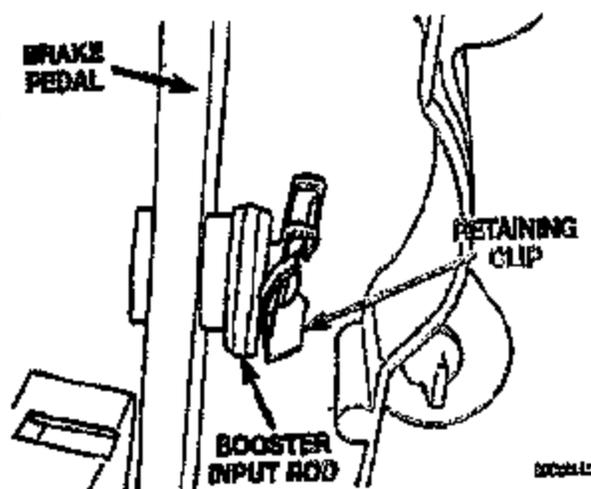

Figure 10
54. • **For 1991 MY vehicles:** Connect the push rod to the pedal pin and install the provided retainer clip (Figure 10). Make sure that the brake lamp switch is properly adjusted.